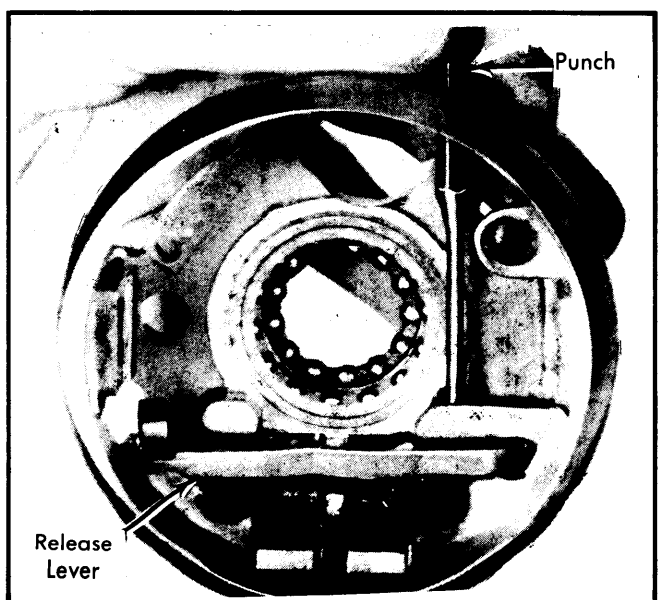

Fig. 11 Removing Release Lever Pin
13) Remove tilt release lever. Using a punch, drive out release lever pin. Compress lock shoe spring to release spring tension on pin. See Fig. 11.